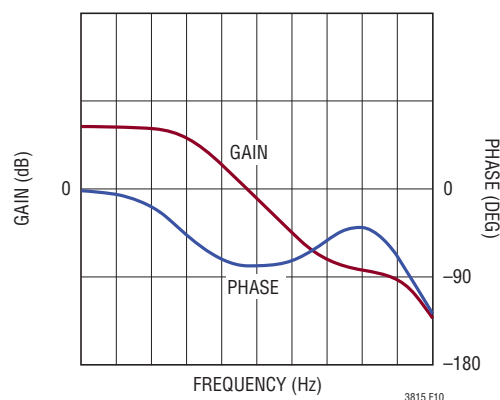

Figure 10. Transfer Function of Buck Modulator
2. If a longer soft-start period is desired, it can be set externally with a capacitor on the TRACK/SS pin as shown in Figure 10. The TRACK/SS pin reduces the value of the internal reference at FB until TRACK/SS charges above the REF pin voltage. The external soft-start duration can be calculated by using the following formula: